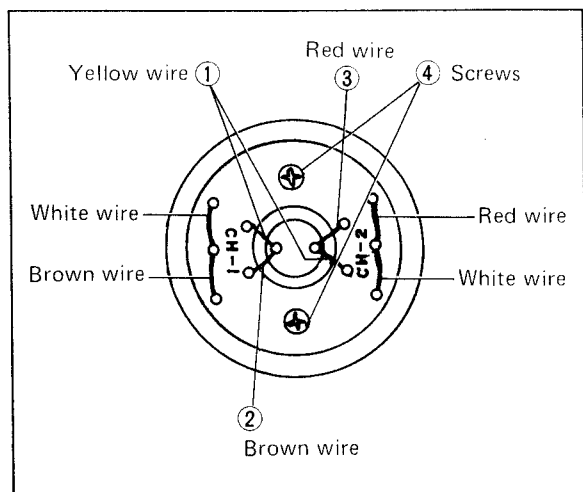

Fig. 5-21 Replacement of video head assembly
2. Remove the two screws (4), then pull-up the upper drum assembly.
3. Install the new head assembly and solder the wires as shown in Fig. 5-21.
4. Fasten two screws (4).